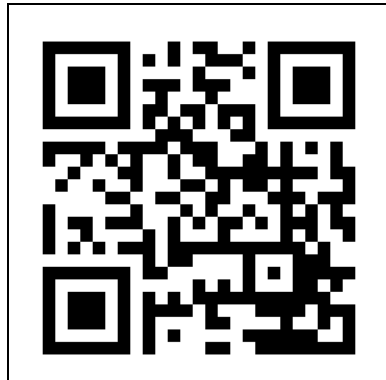

Figure 13
1. Open the Eurom Smart App manual with the QR code (Figure 13) or go to [www.eurom.nl/nl/manuals](http://www.eurom.nl/nl/manuals).